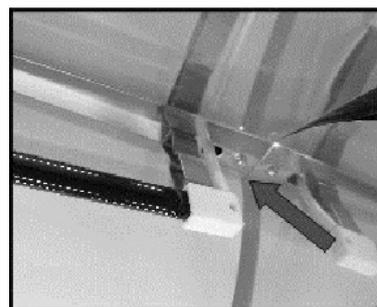

Figure 8 – Remove the bulb.
- Grab the bulb by one side and then the other, and pull it out of its base (Figure 8);